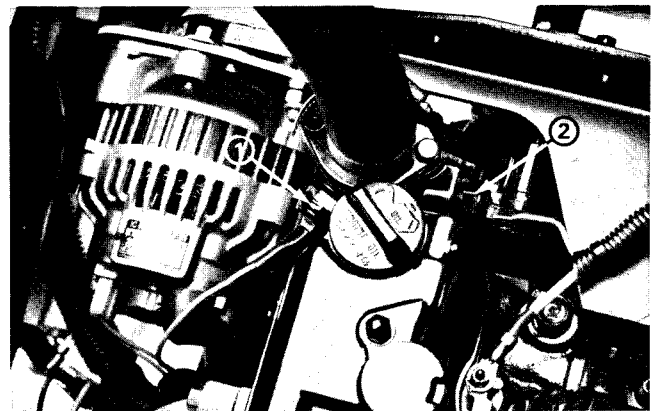

Figure 13
1. Lower the coolant level in the engine and remove the high temperature shut-down switch (Fig. 13).
1. Lower the coolant level in the engine and remove the temperature gauge sender (Fig. 13).